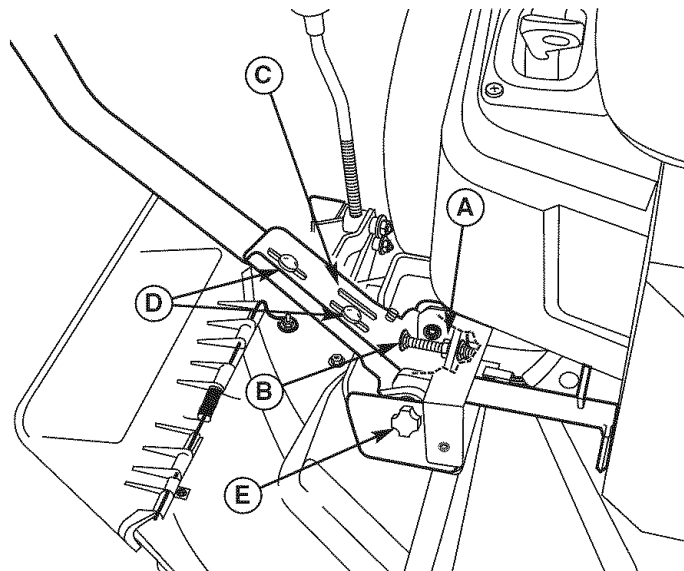

Figure 34. Control Lever Adjustment
To Adjust Control Lever Height: Pull the levers in across the operator's lap to their DRIVE positions. Loosen the mount bolts (D, Figure 34) and raise or lower the levers to the desired position. Tighten the mounting bolts.(D).
To Adjust Control Lever End Gap: The control lever end gap should be adjusted so that the levers do not contact each other when placed in DRIVE positions. Loosen the jam nut (A, Figure 34) and adjust the length of the carriage bolt (B) so that the levers do not contact each other. Repeat on the opposite side. Tighten the jam nut (A) to lock the carriage bolt in position.
To Adjust Operator Clearance: The space between the operator and the control levers can be increase by removing the lower mounting bolt (D, Figure 34), pivoting the lever forward, and reinstalling the capscrew through the control lever and forward slot (C). Repeat with the other ground speed lever.
If the rider veers to the right or left when the ground speed control levers are in the maximum forward position, the top speed of the right lever can be balanced by turning the adjustment knob (E, Figure 34). Loosen the jam nut and turn the knob COUNTERCLOCKWISE to increase speed or CLOCKWISE to decrease speed. Tighten the jam nut when complete.